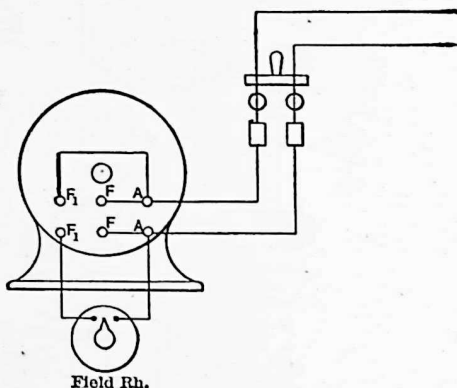

FIG. 162.
**Prob. 36.** In the compound generator of Fig. 162,  $FF$  represent the shunt field terminals, and  $F_1F_1$  the series field terminals. Are the connections right for a long shunt? If not, make the necessary changes.
**Prob. 38.** Connect the generator in Fig. 162 as a simple shunt generator.
**Prob. 46.** Connect the generator in Fig. 162 to run as a shunt motor. ("No-voltage" release on the box.)